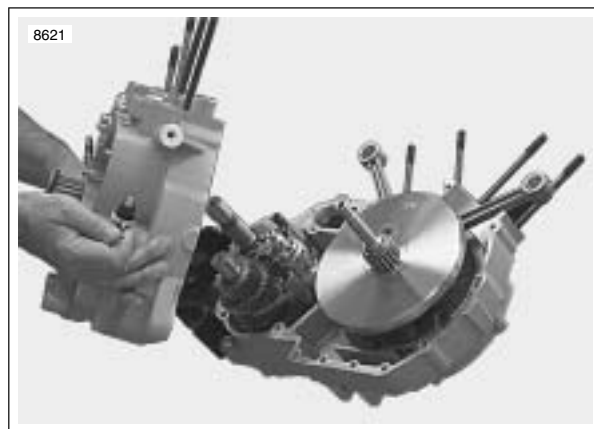

Figure 6-93. Crankcase Halves
5. See Figure 6-93. Assemble crankcase halves together.